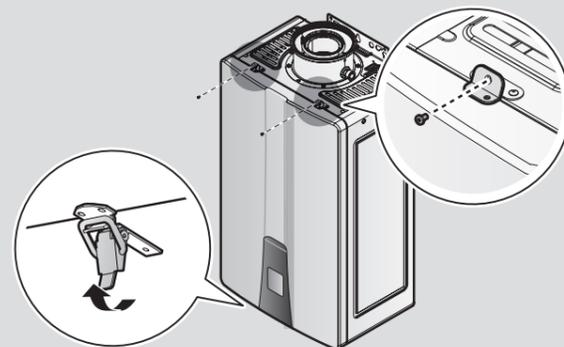

Figure 1. NPN Series Front cover
2. Remove the two upper screws from the front cover assembly using a Phillips head screwdriver. Then, release the toggle latch from the bottom of the front cover assembly to gain access to the internal components. See Figure 1 for illustration of the front cover on the unit.